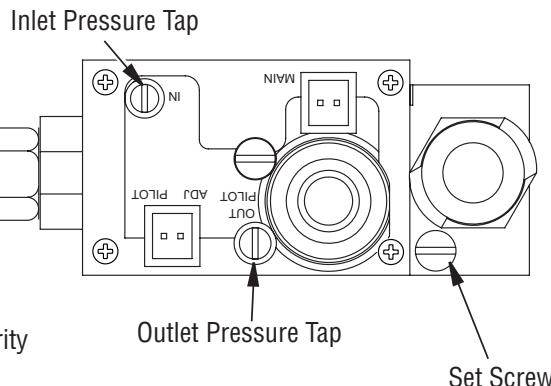

Figure 12 - Connecting Incoming Gas Line to Flex Gas Line
2. Attach flexible gas line from gas supply to control valve (see **Figure 12**).